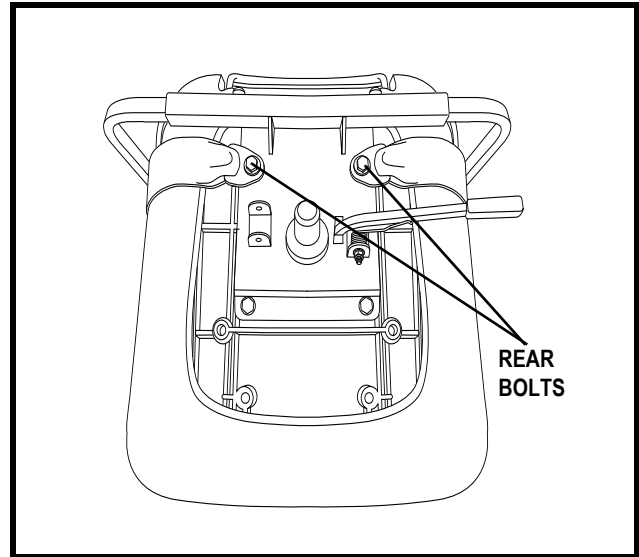

Figure 19. Positioning Belt Illustration
2. Place the seat upside down so that you can see the bottom of the seat base. See figure 19.